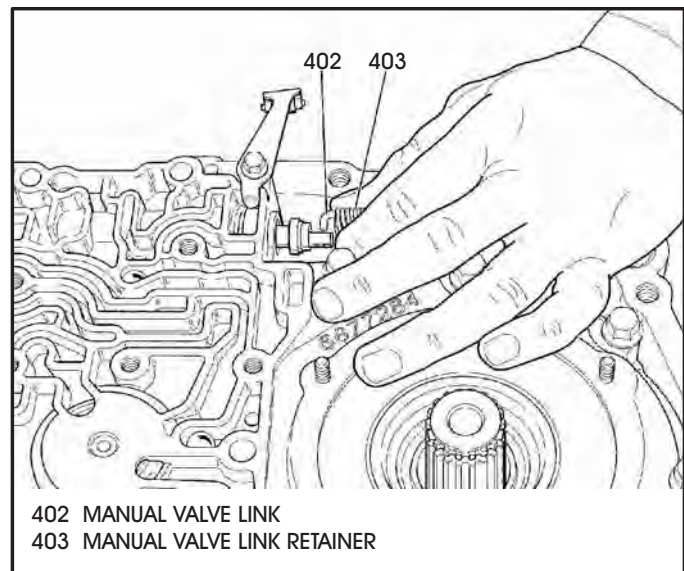

Figure 59
33. Unhook the manual valve link by pulling back on the link retainer with your fingers and then unhooking the link, as shown in Figure 59.